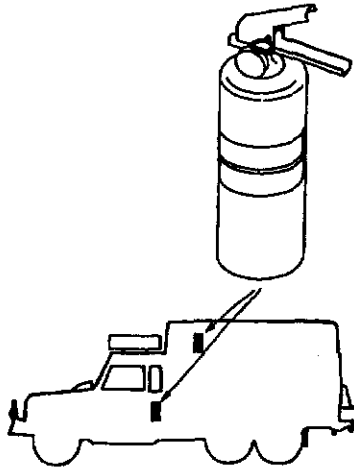

Figure 1-18 Fire Extinguishers
**100. Fire Extinguishers (Fig. 1-18)**